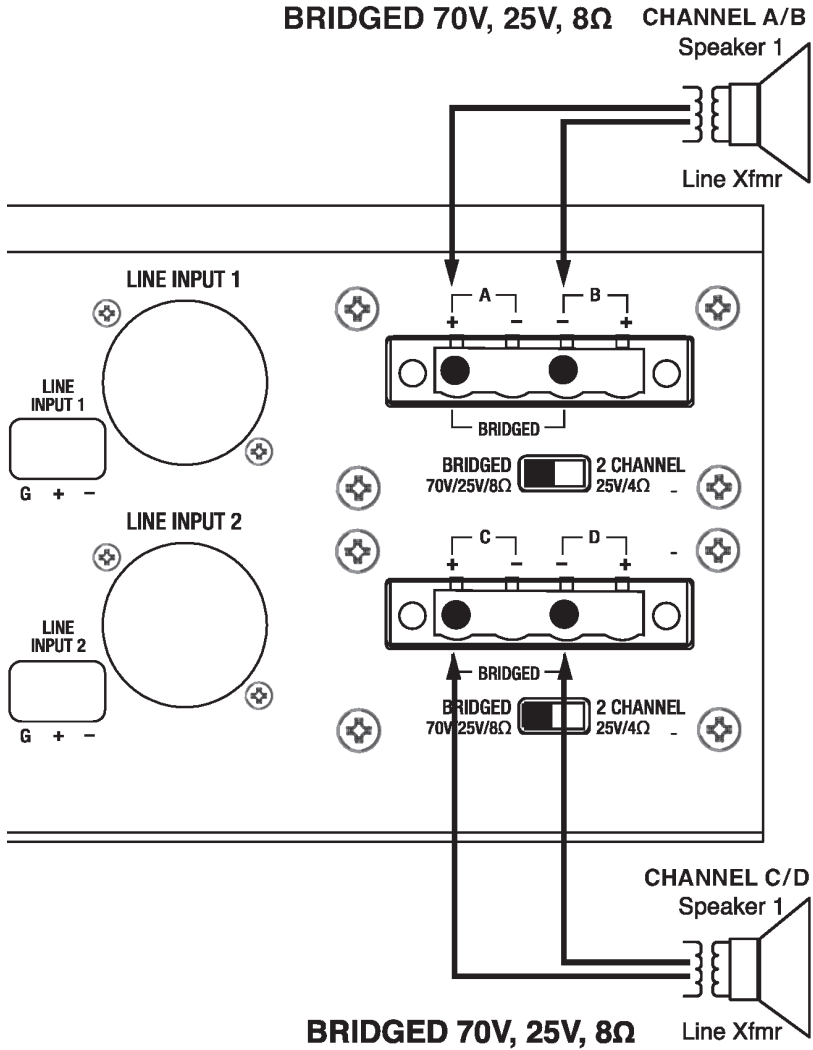
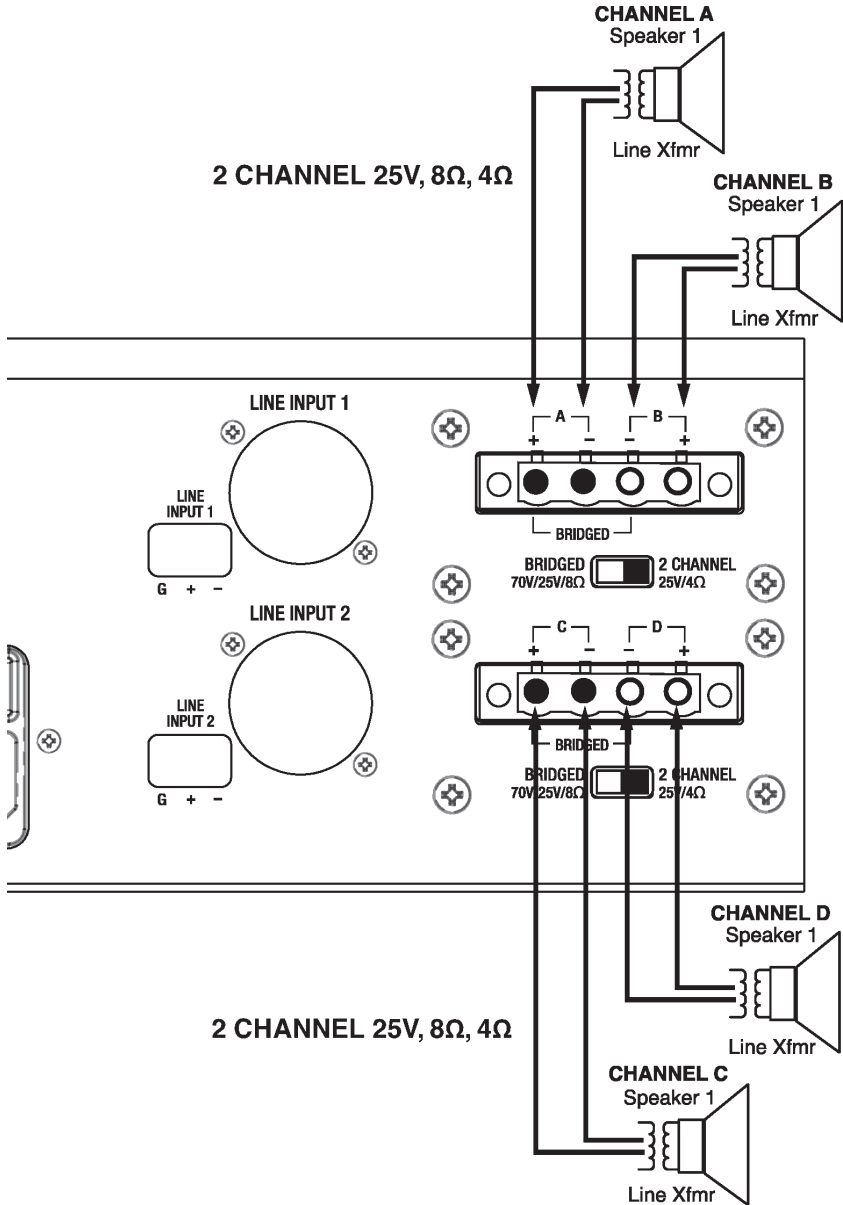

Figure 1. Bridged Wiring
Figure 2. Two-Channel Wiring
5. Connect the loudspeaker wires to the Amplifier Output Terminals, which are labeled A +/-, B +/-, C +/-, and D +/-, as appropriate for the desire mode of operation (see Figures 1 & 2.).
Bridged mode operation requires the speaker wires to be connected across a single, different terminal on each channel (A+ and B- and/or C+ and D-). (See Figure 1.) If two channel mode is used, then Channel A is connected to A+ and A- terminals, Channel B is connected to B+ and B- terminals, Channel C is connected to C+ and C- terminals, and Channel D is connected to D+ and D- terminals. (See Figure 2.)